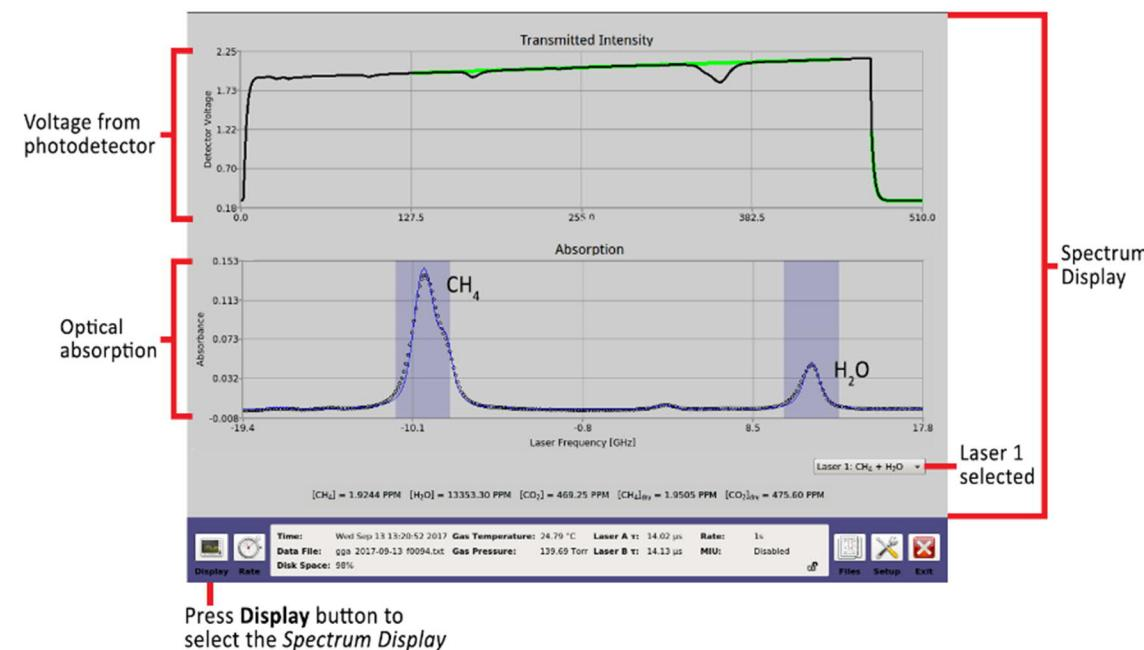
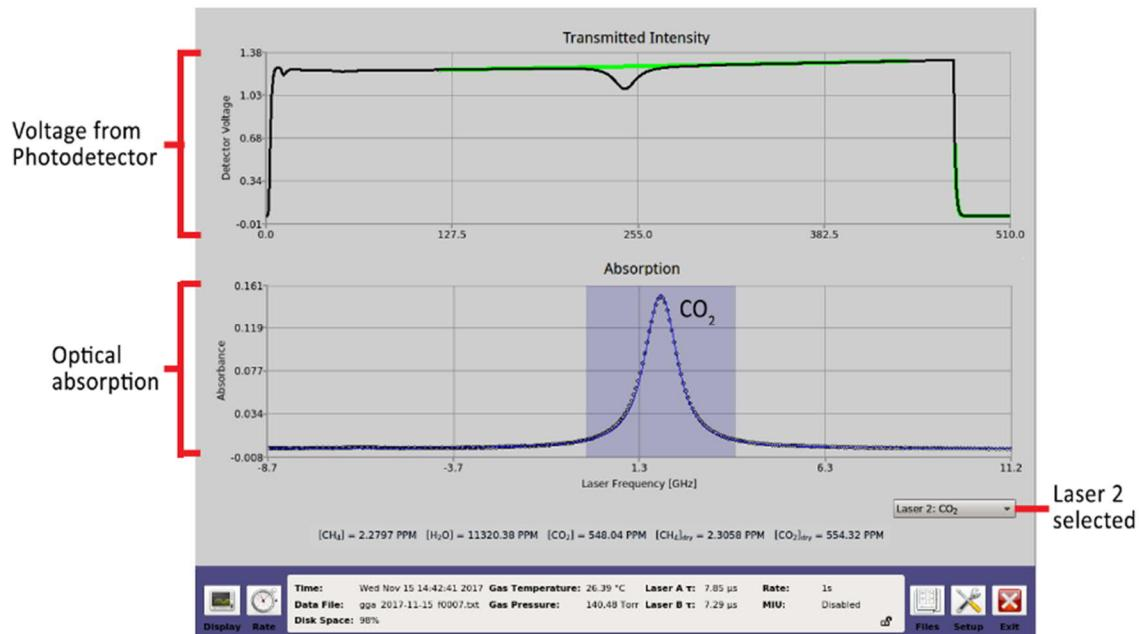

Figure 21: Spectrum Display for Laser 1 (GLA132-GGA)
Figure 22: Spectrum Display for Laser 2 (GLA132-GGA)
- *Spectrum Display*– Displays the raw and fitted spectral scans for one to two lasers, depending on the analyzer type. (Figure 21 and Figure 22)
Figure 21 and Figure 22 show the *Spectrum Displays* for the GLA132-GGA. The GLA132-GGA is a dual-laser system. The drop-down selector in the lower right portion of the *Spectrum Display* lets you toggle between the two lasers:
- Laser 1 (also referred to as laser A) displays CH4 and H2O peaks. (Figure 21)
- Laser 2 (also referred to as laser B) displays the CO2 peak. (Figure 22)